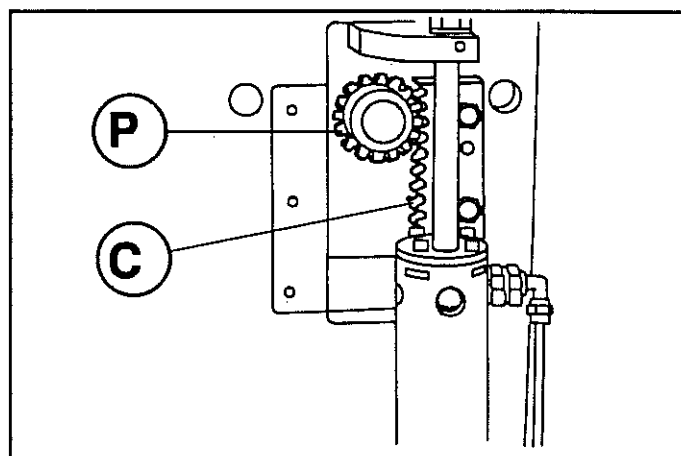

Fig.6.18
Clean the rack (C fig.6.18) and the pinions (P) with an energetic blast of compressed air.